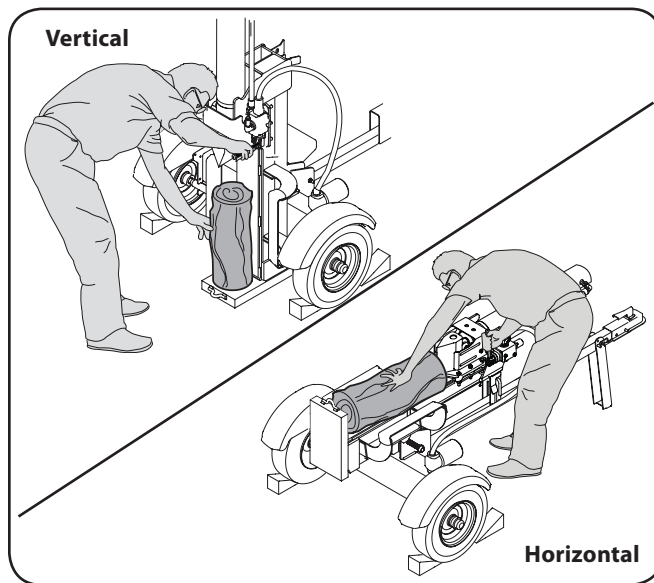

Figure 5-1
2. Block the front and back of both wheels. See Figure 5-1
3. To stabilize the log, place your left hand on the side of the log opposite the beam as shown in Figure 5-1.